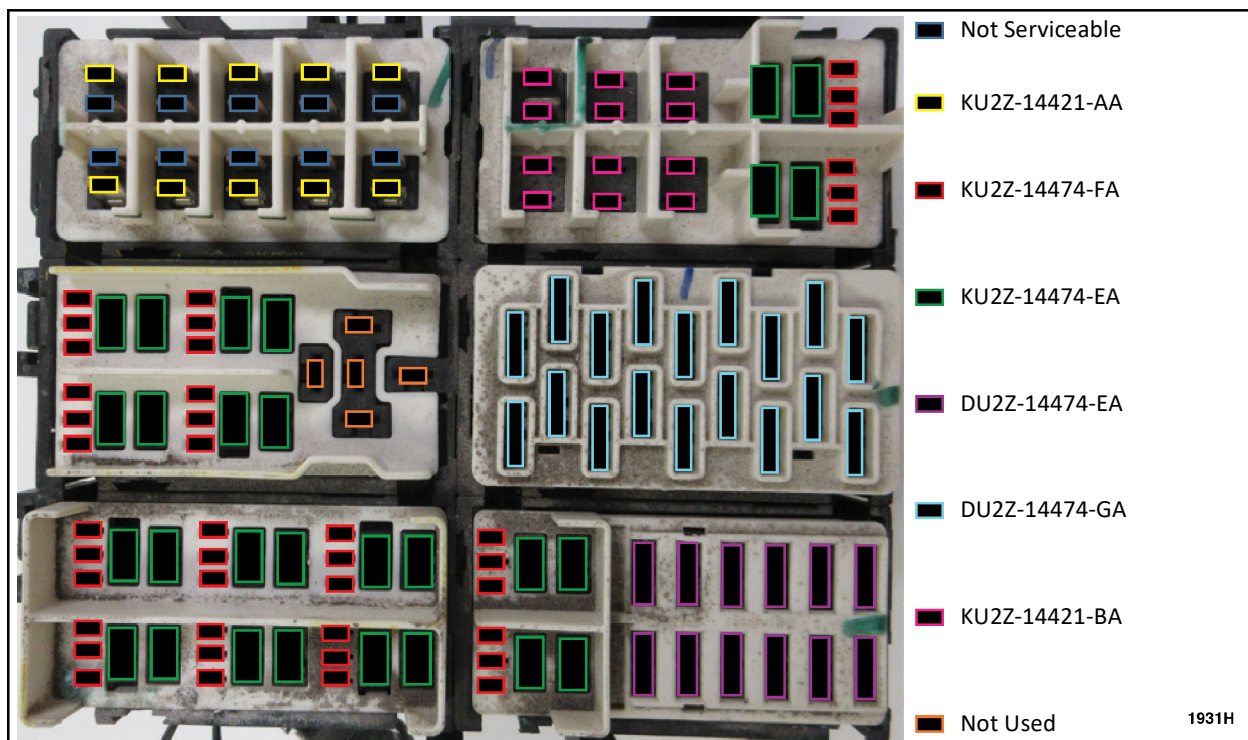

FIGURE 1
No - If diagnosis indicates the cause of the concern is due to corrosion of a non-serviceable terminal in the BJB, submit an approval request via the Special Support Service Center (SSSC) Web Contact Site for wiring harness replacement. See Figure 1.
2. Using a test light and the appropriate Rotunda Flex Probe, verify the terminals for the affected relay, boxed fuse, or mini-fuse are not loose or corroded and the relay, boxed fuse, or mini-fuse is able to conduct current. Is a concern present with a terminal that can be repaired using a terminal repair kit? See Figure 1.